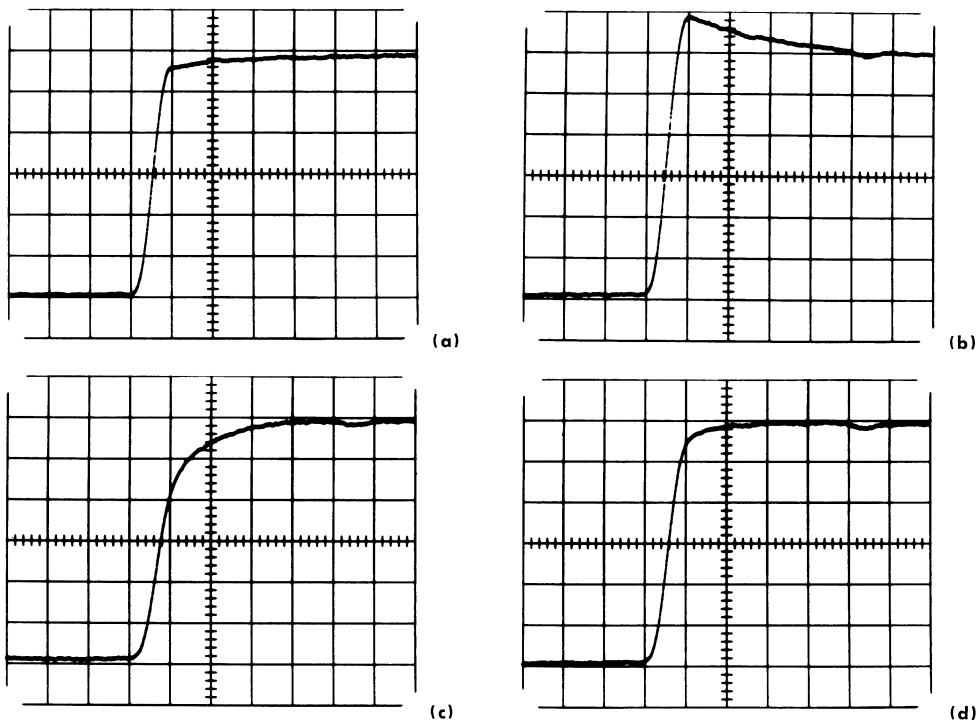

Fig. 6. (a) Pulse generator output, (b) probe over-compensated, (c) probe under-compensated and (d) probe properly compensated.
5. Remove the metal cap from the end-line termination. Connect the equipment as shown in set-up #2, Fig. 6. Do not use an extension cable between the probe cable connector and the sampling oscilloscope input. Make the probe ground connection to the termination body with a ground-clip (without strap or other leads). This set-up provides a 25Ω source impedance to the probe.